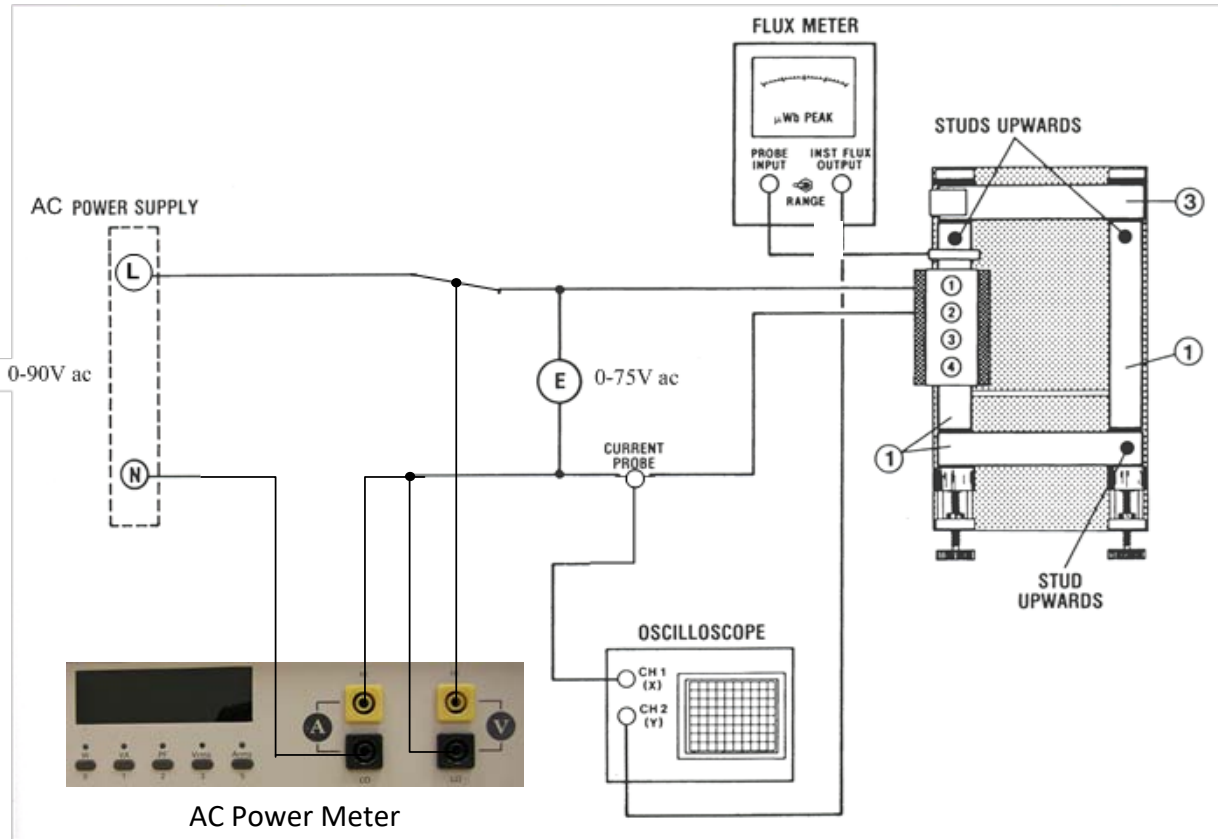

Fig. 9. Circuit used to observe the hysteresis loop
1. Set up the circuit with a digital power meter, as shown in Fig. 9. The power meter will measure the *total* power input to the circuit. Tighten the screws to minimize air-gaps. Set the oscilloscope to DC input mode. Select the 0-1000 μWb peak scale on the flux meter.
11. Replace the right laminated bar without a coil in Fig. 9 with the 133mm solid, soft steel bar. Apply power and raise voltage E to 55V (the highest voltage you used above). Observe the display on the oscilloscope. Measure V_1 max and V_2 max and calculate the corresponding maximum values of I max and flux ϕ .